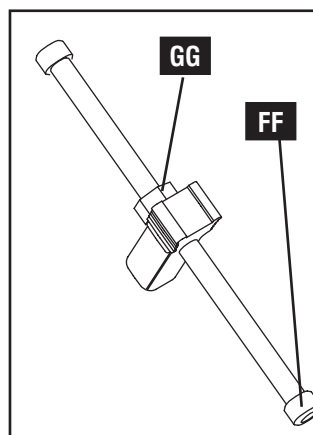

Fig. E17
**TO CORRECT RECESSED PINBOARD:** Loosen hex nut (GG) Fig. E17 and turn stop screw (FF) Fig. E17 or E18 **clockwise** if the joint is recessed.
**TO CORRECT PROUD PINBOARD:** Loosen hex nut (GG) Fig. E17 and turn stop screw (FF) Fig. E17 or E18 **counter-clockwise** if the joint is proud.